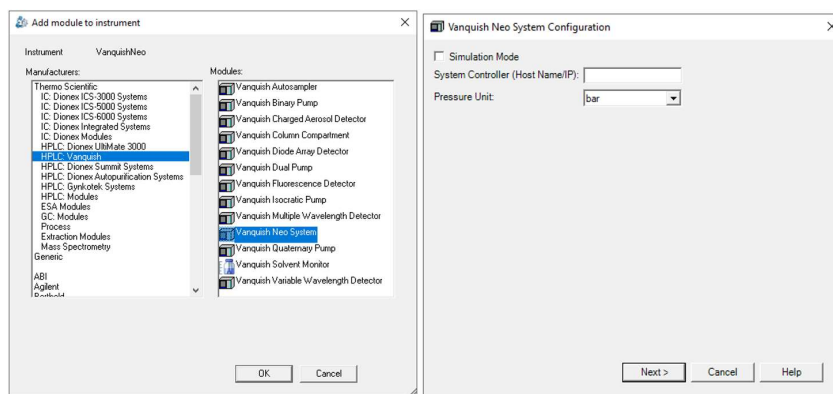

Figure 21: Add new module to the instrument and set the system controller IP address
- 3) Add a new module and select "HPLC: Vanquish" followed by "Vanquish Neo System". Enter the Vanquish System Controller IP address (Figure 21). The IP address of the Vanquish Neo system can be displayed and modified on the Vanquish UI – Settings Panel – Connectivity. For details, please refer to section 4.1.4.